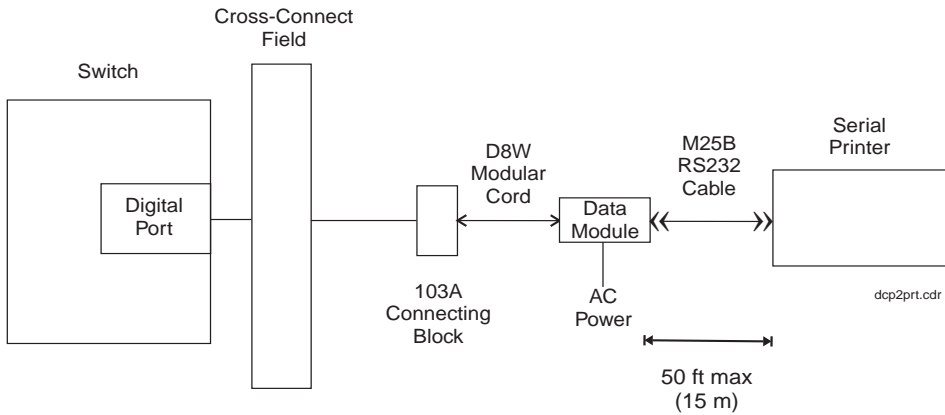

Figure 26. Printer connections using a data module
Figure 26 shows how to connect a journal/schedule printer, a PMS log printer, or a system printer to the switch using a data module.
5. Reconnect the unit as shown in Figure 26.
6. Reconnect the unit as shown in Figure 26.